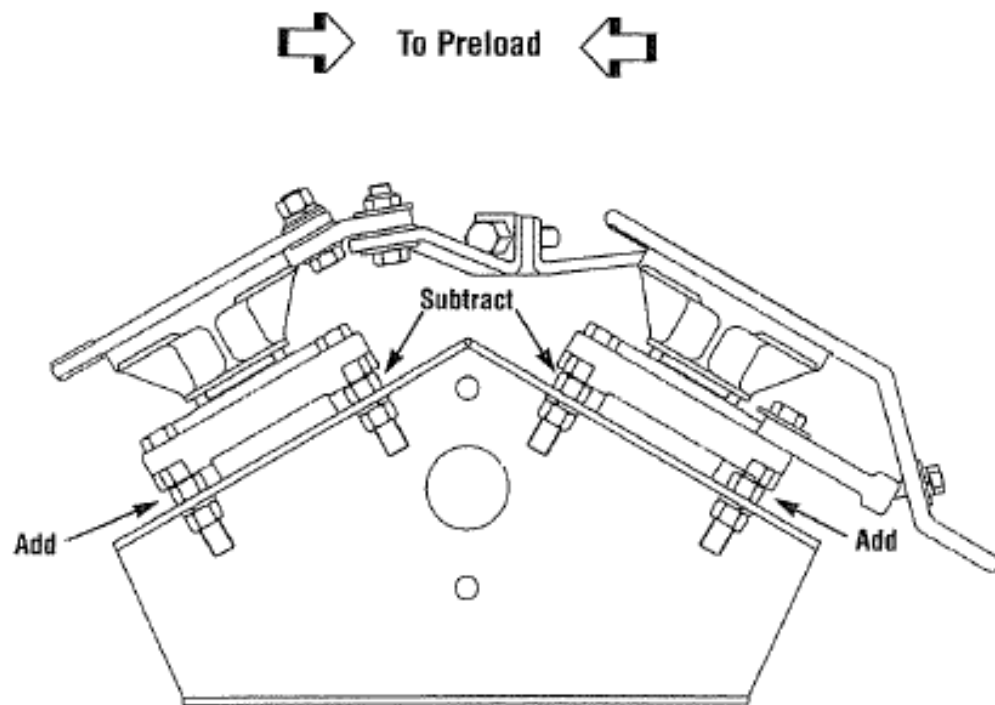

Figure 11: Preload Insulators
1. When the contact engagement is correctly set, preload the insulators toward the center of the gap. Add one flat on both outside jack screw nuts and subtract one flat on both inside nuts (**Figure 11**). This is done on both bearings.